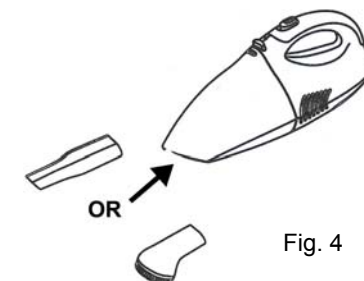

Fig. 4
- To attach the crevice tool or the dusting brush to the hand vacuum, push the attachment into the suction hole in the front of the dust container. (Fig. 4)